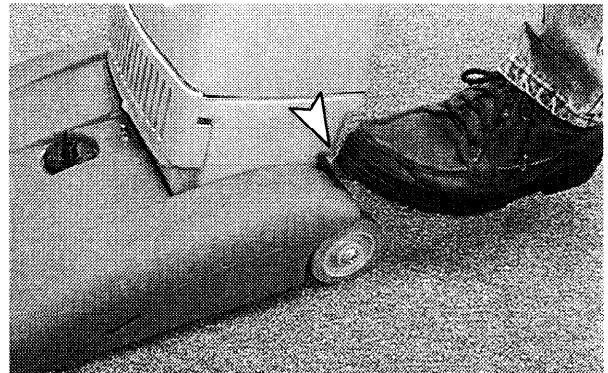

FIG. 8
2. Lower handle to operating position by stepping on handle release latch (Figure 8).